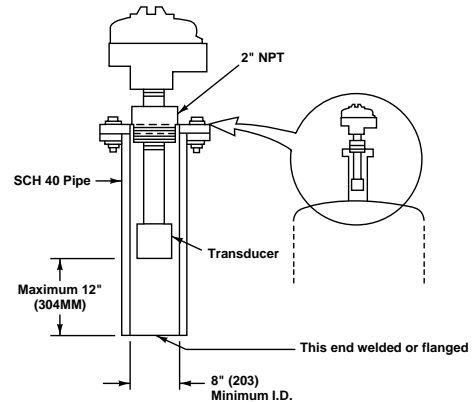

Figure 1
3. In applications where the material level can reach the top of the tank, the sensor portion of the unit must be mounted in a short, flanged pipe stub. The diameter of the stub should be at least 8 inches (203 mm) and its length should be limited to 12 inches (305 mm). Refer to Figure 1.